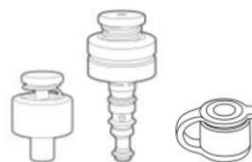

Figure 3
12. If using the 3-piece or 4-piece valve kit (Figure 3 & 4), attach the biopsy valve.